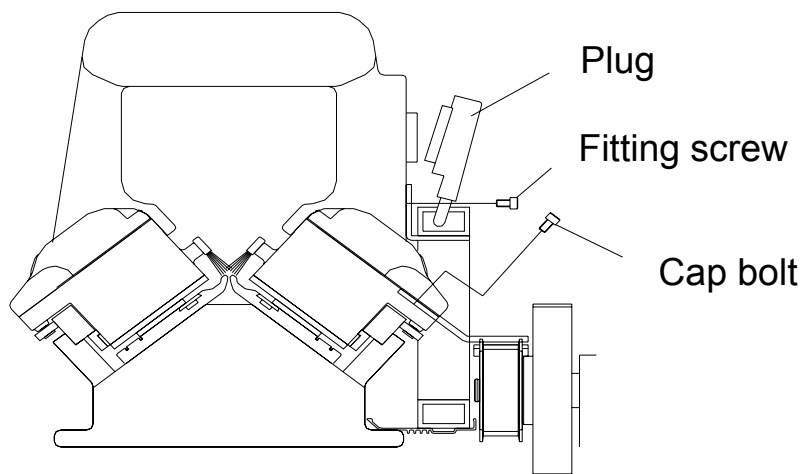

Fig.7-1 Remove the carriage
- ① Turn off the power firstly.
- ② Remove the side cover.
- ③ Disconnect the two plugs on back of carriage.
- ④ Remove the fitting screw and cap bolt on connecting plates as shown in Fig.7-1. Then pay attention to remove the carriage.
- ⑤ After replacing the carriage, it must be confirmed that the plugs, fitting screws and cap bolts are all completely connected, then start machine.